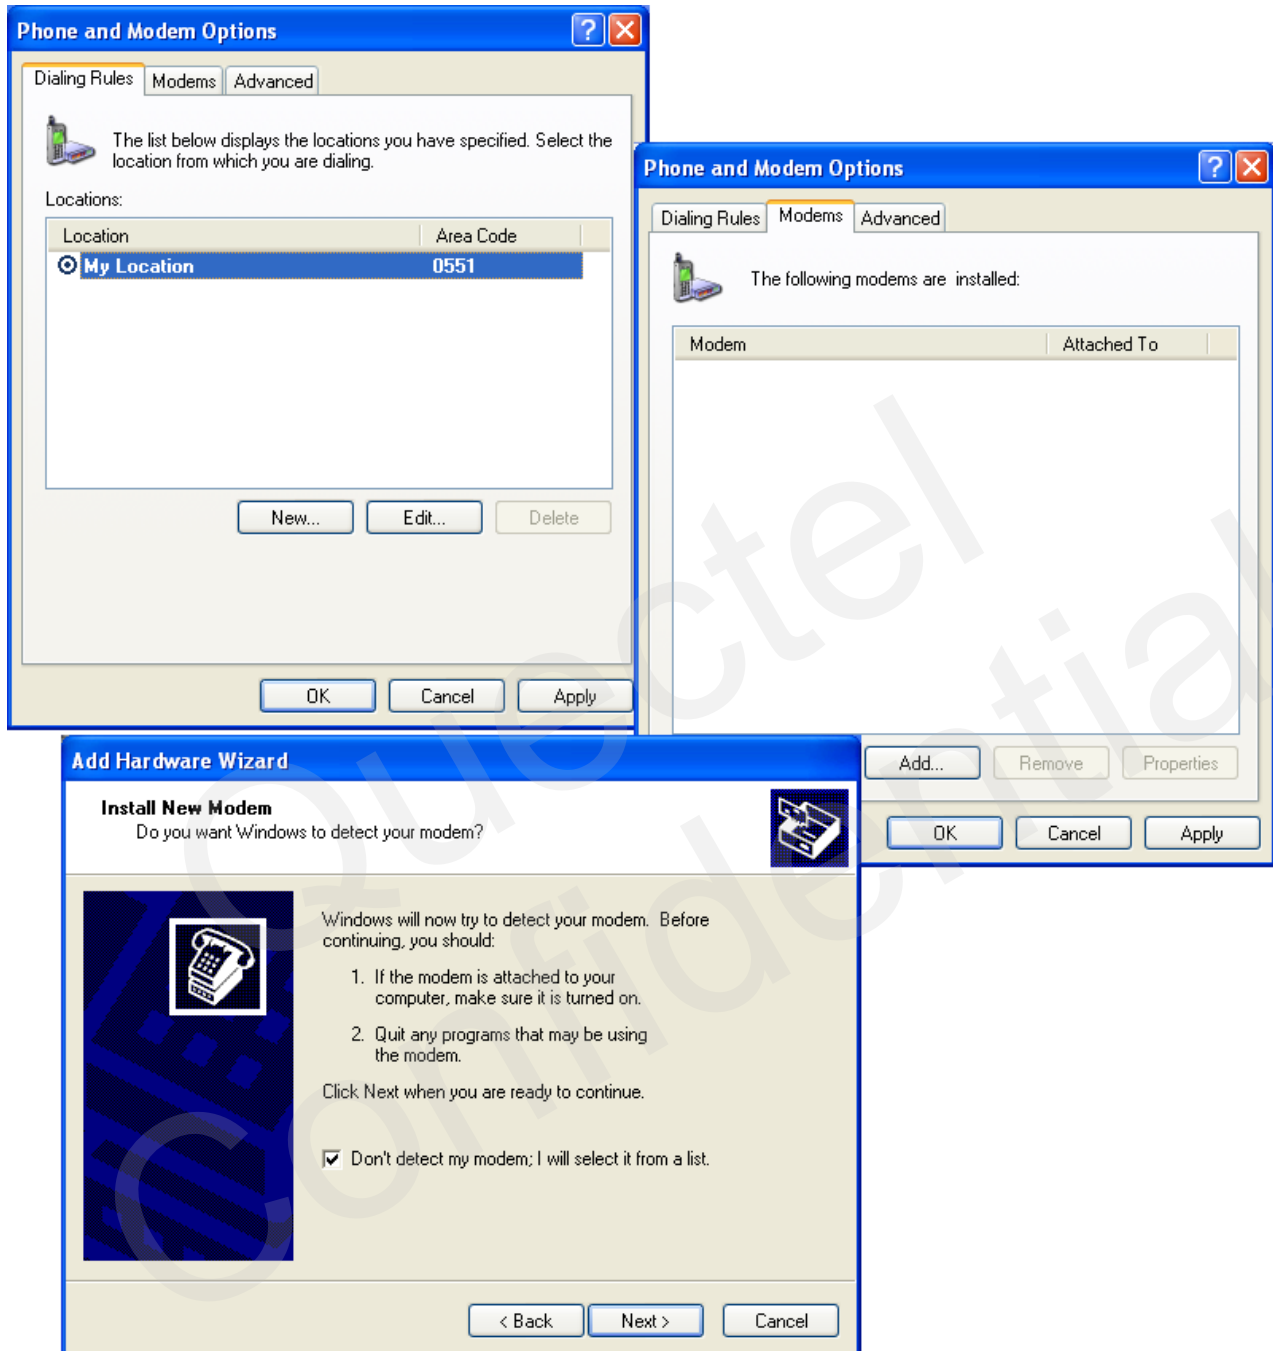

Figure 5: Add a New Modem
- Double click **"Phone and Modem Options"**, and select **"Modems"**-> **"Add..."** to add a new modem. Refer to Figure 5.